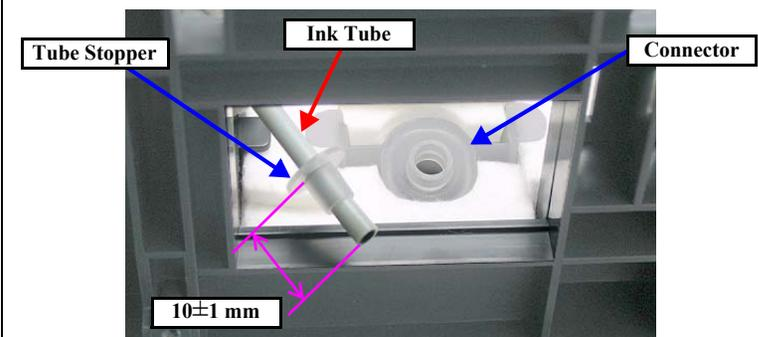

Figure 4-43. Installing Ink Tube(2)
10. Pull out the Ink Tube and the Tube Stopper (Figure 4-43) from the connector of the Waste Ink Pads, and draw out the tube from the hole of the Frame Base.